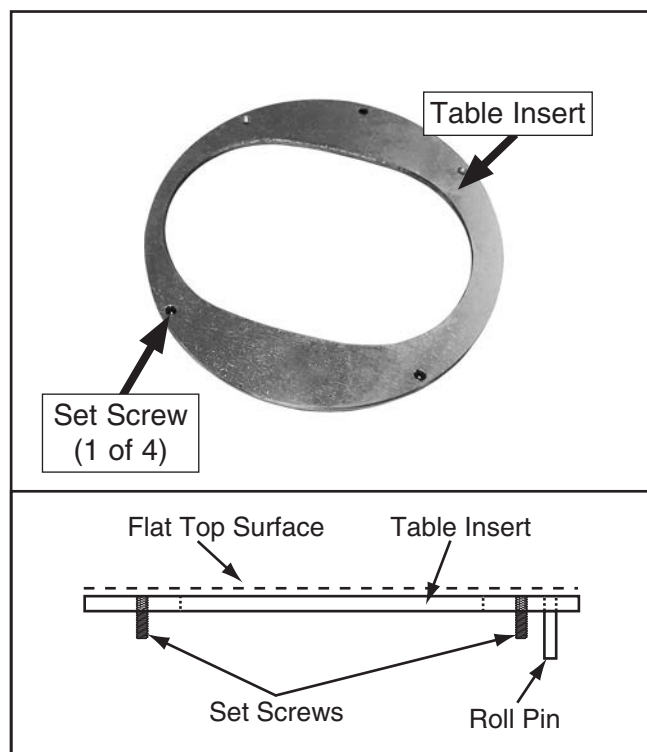

Figure 15. Inserting set screws.
13. Thread four of the $\frac{1}{4}$ "-20 x $\frac{5}{8}$ " set screws into the threaded holes on each table insert, as shown in **Figure 15**.